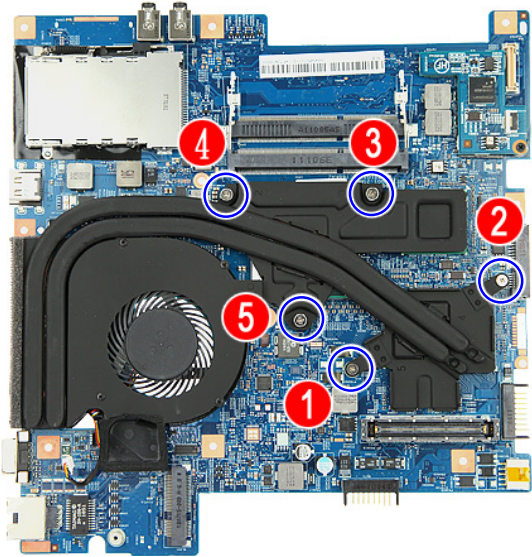

Figure 3-55. Thermal Module Screws
- 3. Loosen the spring-loaded captive screws securing the thermal module. Follow the screw sequence indicated on Figure 3-55.